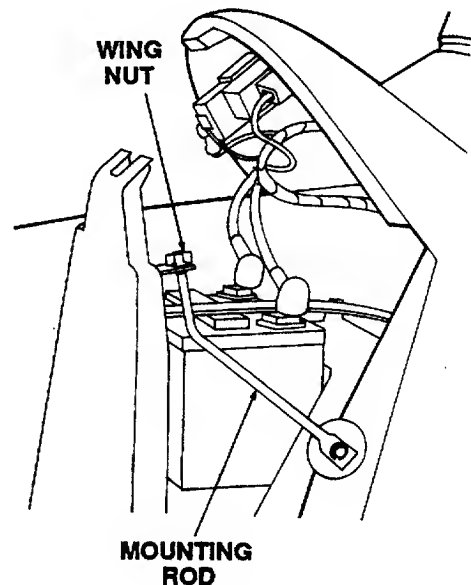

Figure 30
2. Remove the wing nut securing the left mounting rod to the bulkhead mounting bracket (Refer to Figure 30) and pull the rod downward from the bulkhead bracket.
10. Rotate the mounting rod downward and insert through the bottom of the hole in the bulkhead mounting bracket (See Figure 30).